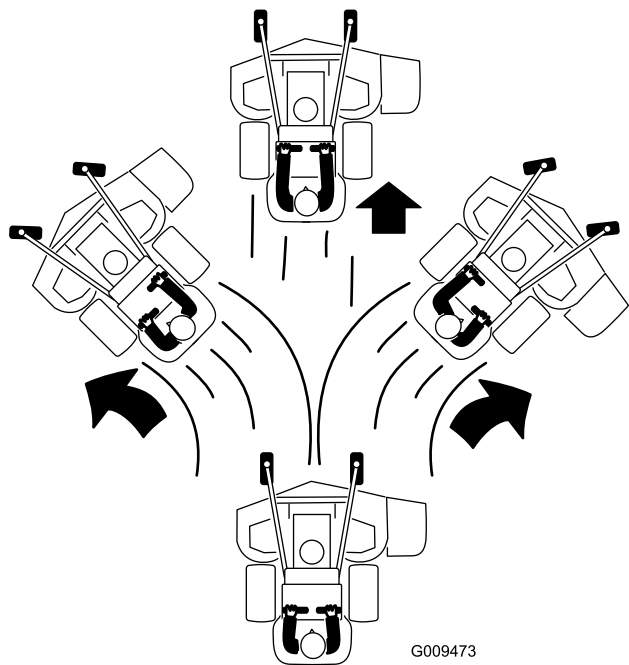

Figure 21
3. Slowly push the motion control levers forward (Figure 21).